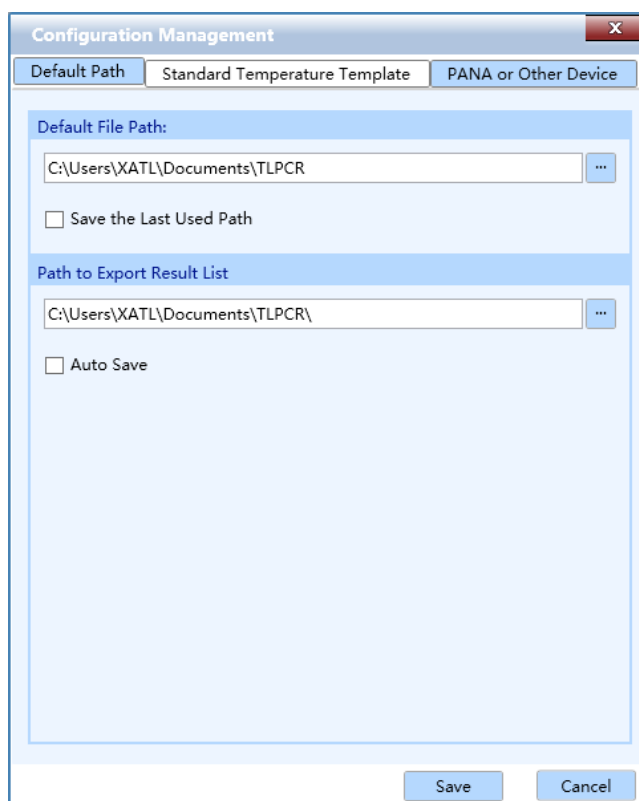

Figure D-3.8a. Option Submenu - Configuration Management Interface - Default Path Tab
1. **Configuration Management:** Click **Configuration Management** option in the **Option** submenu and the application software will automatically pop up the configuration management interface, as shown in figure D-3.8a.
- ▶ **Default Path** tab: the configuration management interface displays the **Default Path** tab by default, as shown in figure D-3.8a.